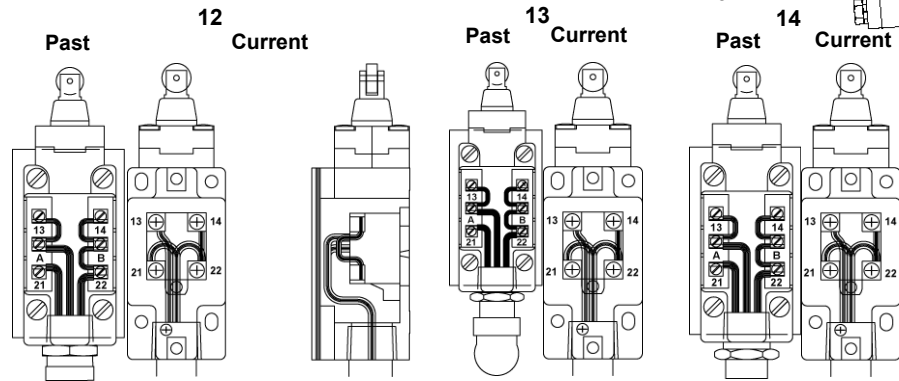

FIGURE 5-3
See Figure 5-3 for the following instructions.
- a. LED (light emitting diode, Past Production only) should be on for normal operation. For both Past and Current Production, limit switch should be depressed to dimension given in Figure 5-3 for normal operation.
2. Ensure rollers (2) contact drum (4).
3. Turn adjusting screw (6) until limit switch is depressed to the 43,4 mm (1.7 in) dimension given in Figure 5-3.